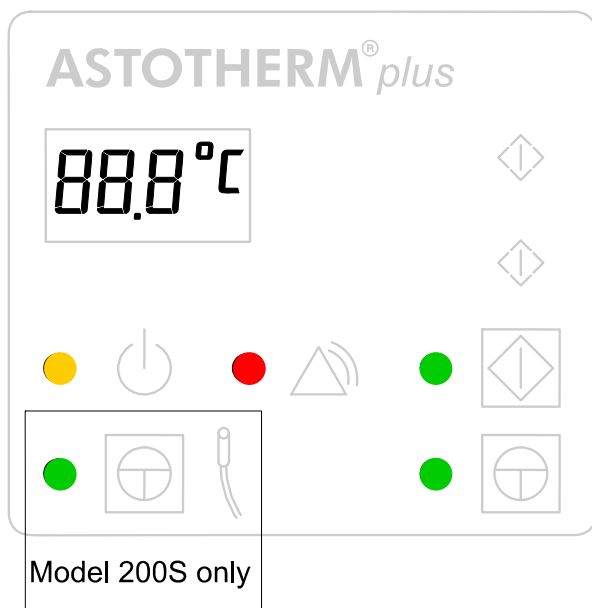

Fig. 8 Display elements of model 200(S)
All the display devices should come on for a brief period (cf. Figs 8 and 9).
The ASTOTHERM PLUS is fitted with alarm test functions. These simulate the failure of temperature sensors and thus lead to activation of alarm cut-offs. The description which follows relates to ASTOTHERM PLUS 220(S) and 260(S) models with adjustable selected temperature. For the ASTOTHERM PLUS 200(S) models, there are no keys for changing temperature. In this case, the key names in brackets apply (cf. Figs 8 and 9 and operating instructions, Section "CONTROL PANEL").